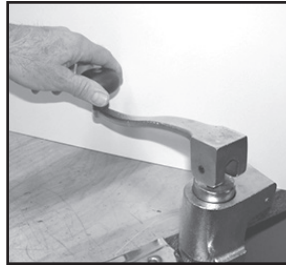

Figure 7
1. Stand facing opener on the gear side with the handle lowered. (Figure 7)